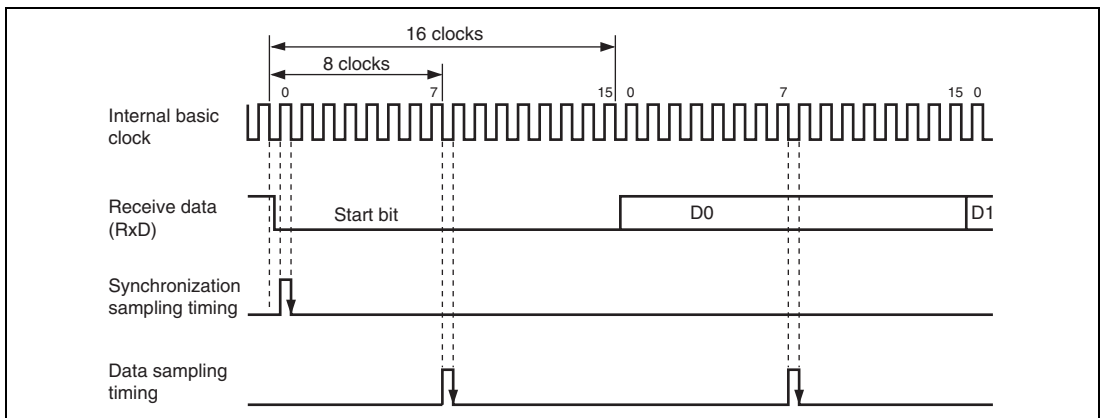

**Figure 13.3 Receive Data Sampling Timing in Asynchronous Mode**
In asynchronous mode, the SCI operates on a basic clock with a frequency of 16 times the bit rate. In reception, the SCI samples the falling edge of the start bit using the basic clock, and performs internal synchronization. Receive data is latched internally at the rising edge of the 8th pulse of the basic clock as shown in figure 13.3. Thus the reception margin in asynchronous mode is given by formula (1) below.